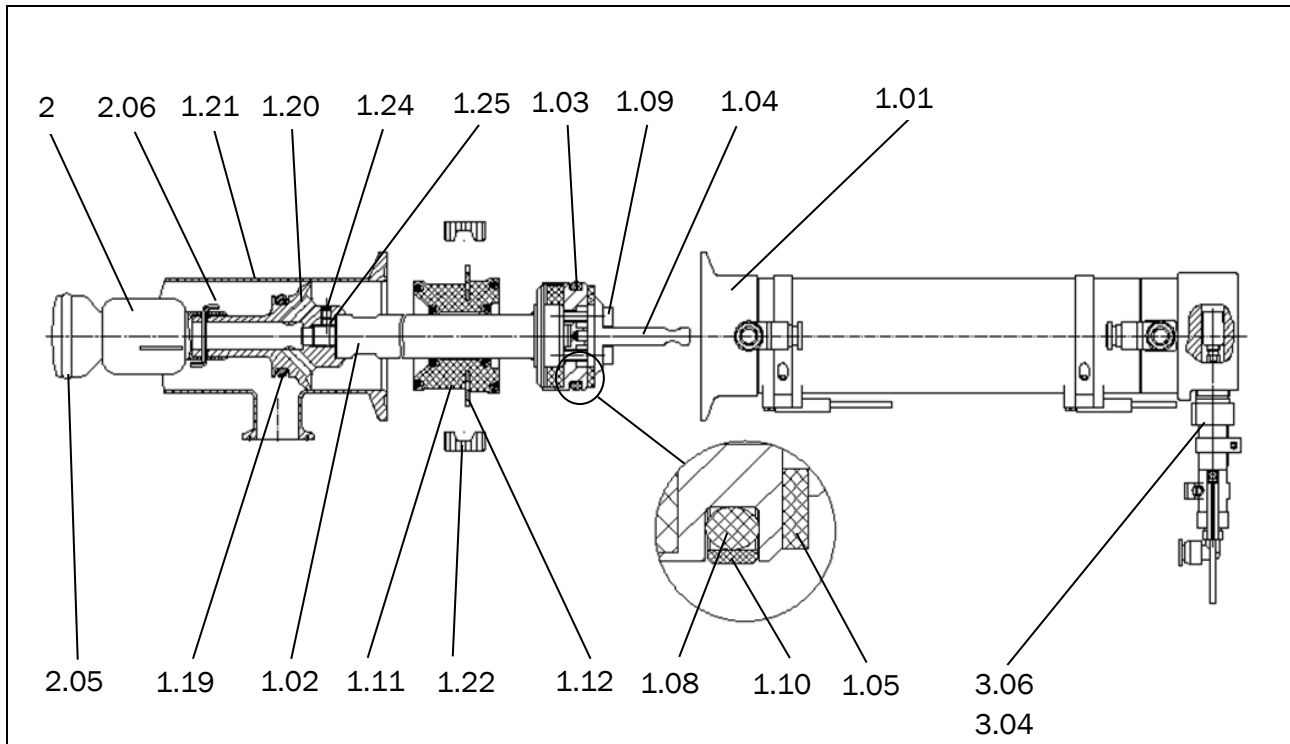

Figure 7.4-5: Replacing Consumables
6. Install the new O-rings according to Figure 7.4-5.